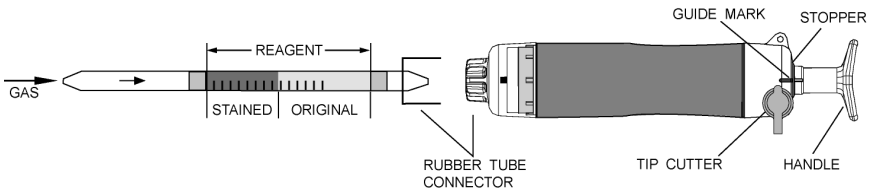

Fig.1
- ② Insert the detector tube into aspirating pump securely as shown in Fig.1. (Arrow mark shall point to the pump.)
- ③ Align the guide marks on the handle and stopper of the aspirating pump.
- ④ Pull the pump handle at full stroke until it locks and wait for 2 minutes or until the completion of sampling is confirmed with the flow indicator of the pump (See descriptions about the flow indicator in the instructions of the pump).
- ⑤ On completion of sampling, read the scale at the maximum point of the stained layer.
- ⑥ If the discolouration is over the scale, change the tube and pull 1/2 strokes.